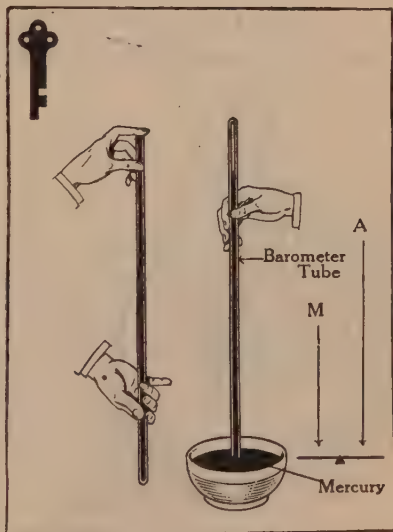

FIGURE 28. — (KEY) DEMONSTRATION 5.
Method: Carefully fill the tube with mercury, using a paper funnel for the purpose. Placing the thumb or first finger tightly over the open end of the tube, invert it in the dish of mercury and then slowly remove the thumb or finger. Fasten the tube in an upright position by the use of a clamp and ring stand so that the bottom of the tube does not touch the bottom of the porcelain dish (Fig. 28).
56. Torricelli's Conclusions. — This great scientist at once saw from his experiment that the weight of the atmosphere was sufficient to support a 30-inch column of mercury or a 34-foot column of water in a vacuum tube of any diameter. He concluded that the weight of the atmosphere pressing down upon the mercury in the dish just balanced the weight of the mercury in the tube. In fact, the air was the effort and the mercury in the tube was the resistance in a lever (Fig. 28) and as the amount of the effort changed, the amount of the resistance changed also. Finally,